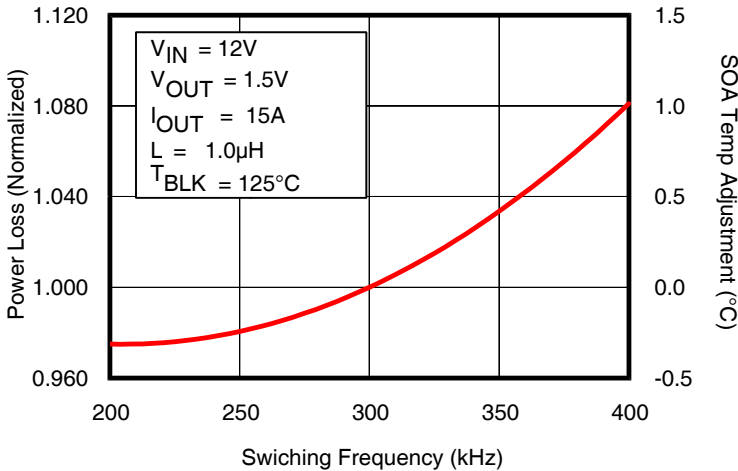

Fig. 6: Normalized Power Loss vs. Frequency
- (Fig. 6) Normalized power loss for frequency ≈ 1.08
- (Fig. 6) Normalized SOA Temperature for frequency $\approx +1.0^{\circ}C$